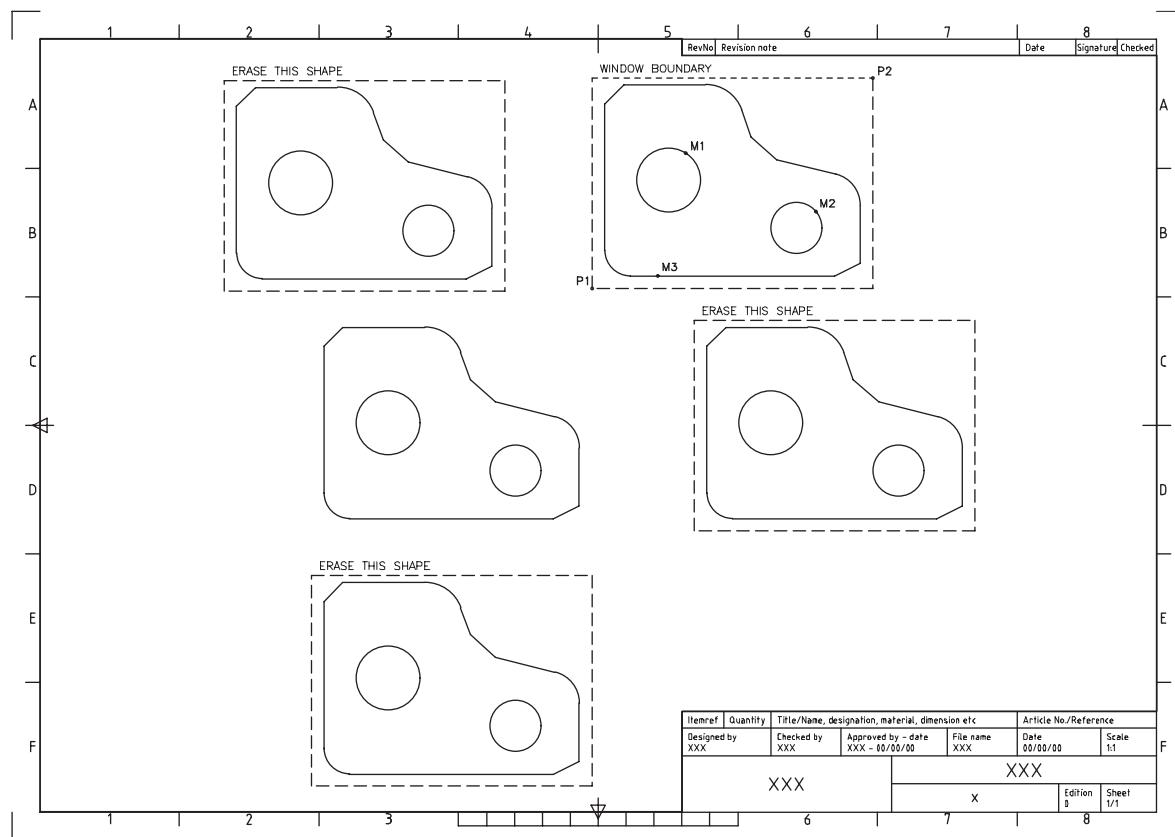

Figure 15.2 WORKDRG after the COPY command with selection information for MOVE.
- b) Select from the menu bar **View-Zoom-All** to 'see' the 3 copied shapes indicated – Figure 15.2.
- 3 Refer to Figure 15.2 and erase the shapes indicated.